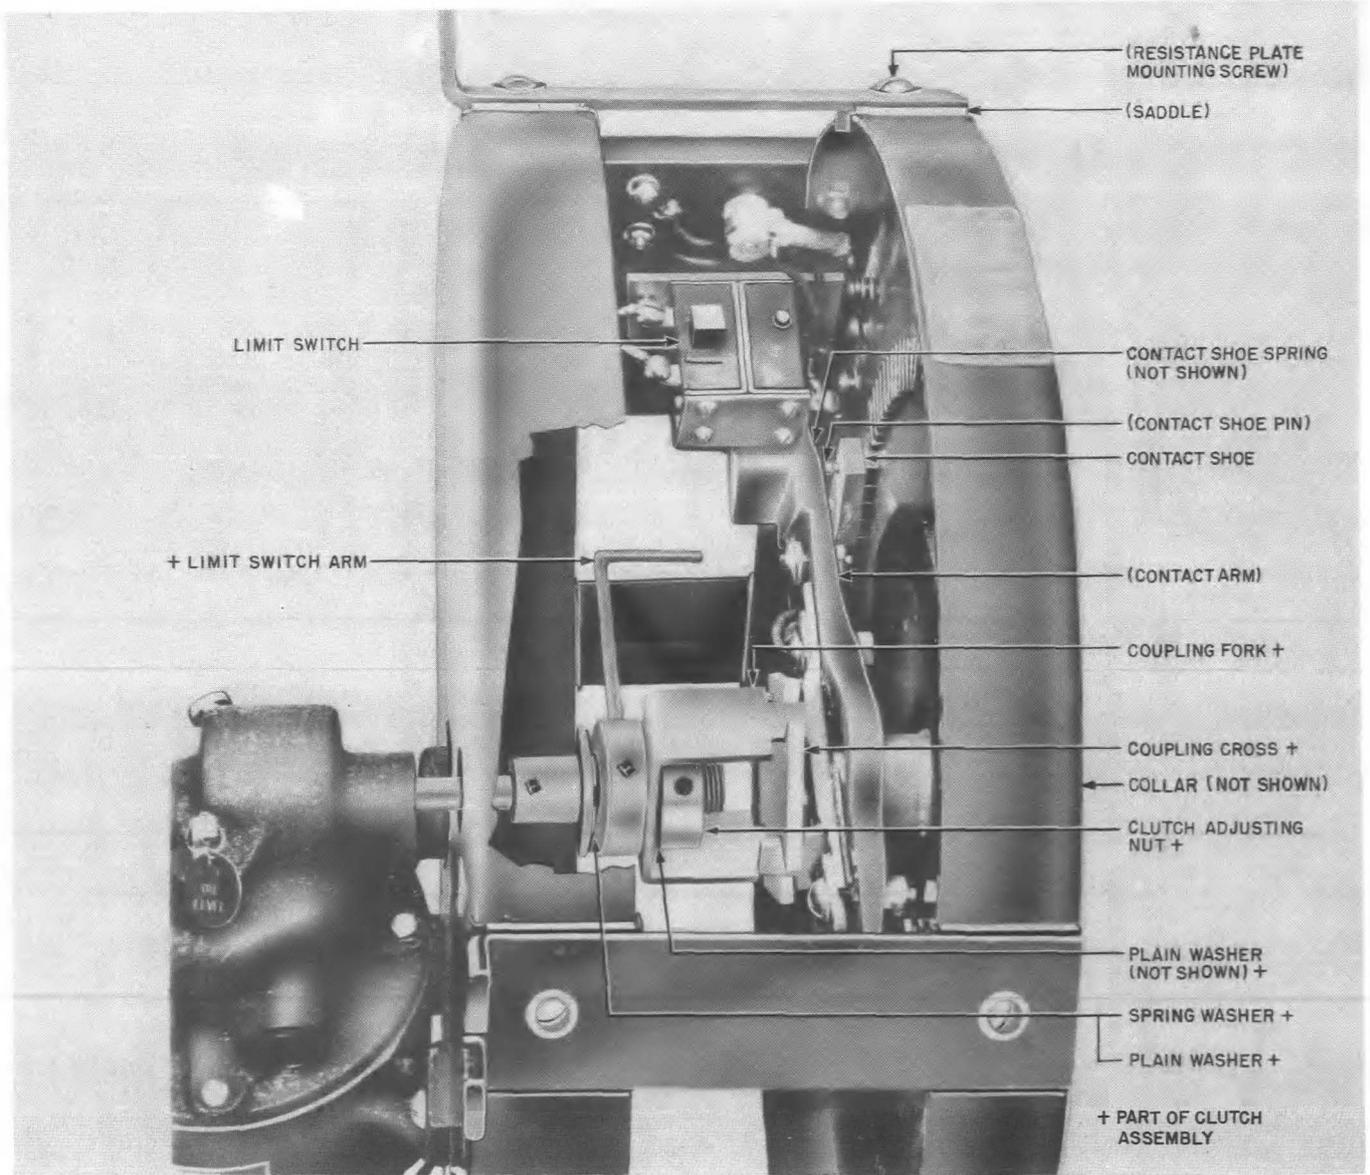

Fig. 1—KS-15571 and Mfr Disc. KS-5501, KS-5713, and KS-15743 Rheostats
2.01 Figures 1 through 4, included in this part of the section, show the various parts in
(1) Rheostats Having One Resistance Plate
- (a) Loosen the motor mounting nuts, using the R-1542 wrench, and move the motor and gear box away from its mounting sufficiently to remove the coupling cross (Fig. 1). Remove the cross.
(2) Rheostats Having Two Resistance Plates
- (b) **Springs Associated With Outer Resistance Plate:** To replace these springs, proceed as covered in (1) (b) through (d) after removing the outer plate as covered in (a). Replace defective springs and reassemble the parts of the outer plate in reverse order of removal.
- (c) **Springs Associated With Inner Resistance Plate:** To replace these springs, proceed as covered in (1) (a) through (d) after removing the outer plate as covered in (a). Reassemble all parts of the rheostat in reverse order of removal.